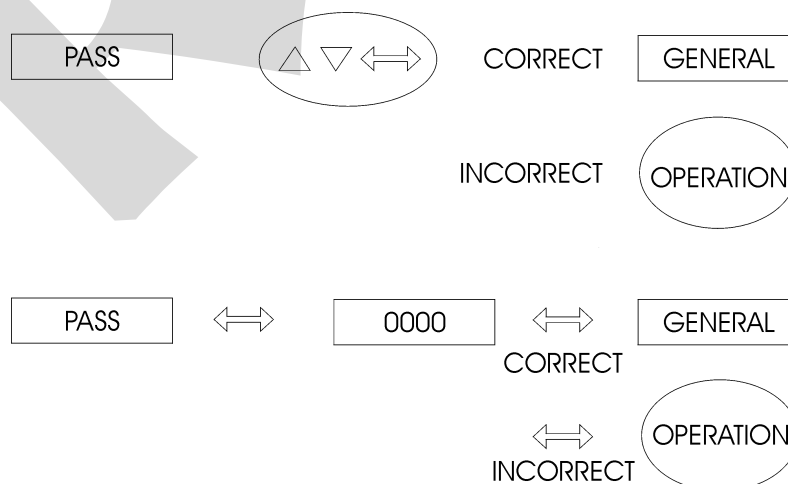

Fig. 10 - Password through key sequence or value
- The PASS warning is displayed, indicating that the instrument is provided with a password system (a key sequence or a value), according to figure 10.
For a value password, the user must press the ENTER key for a second time in order to view the number 0000 with the right end digit blinking. The position which is blinking indicates the digit in the number to be changed by the user with the UP and DOWN keys. Move to the digits on the left by pressing ENTER. After entering all digits, press ENTER again. If the password is correct level 1 is accessed; otherwise, it returns to normal operation (see figure 10).